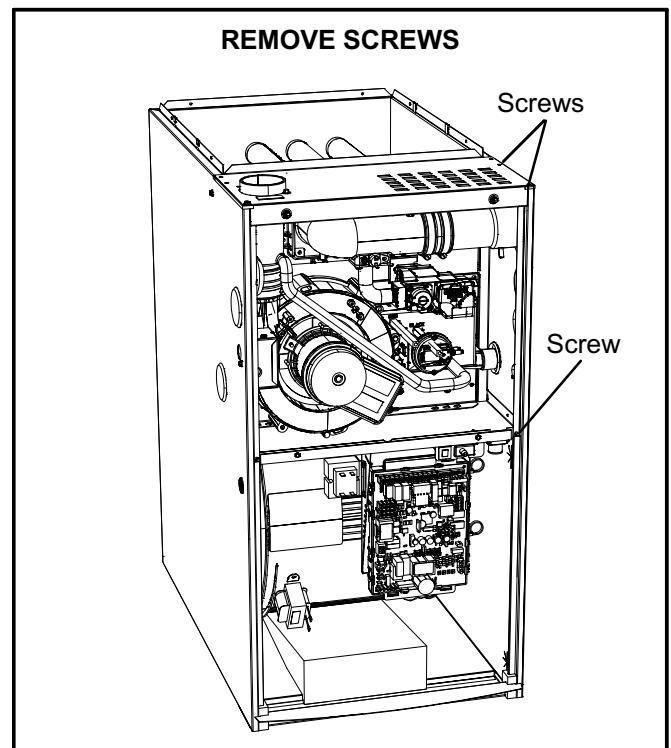

FIGURE 54
- 5 - Remove the air intake coupling. If the air intake coupling is still too difficult to remove, then remove the two screws from the right side of the top cap and one from the far right side of the blower deck that attaches to the cabinet. See figure 54. Carefully pull cabinet side away from air intake coupling, then remove the air intake coupling. **Note: Be careful not to bend the cabinet side.**